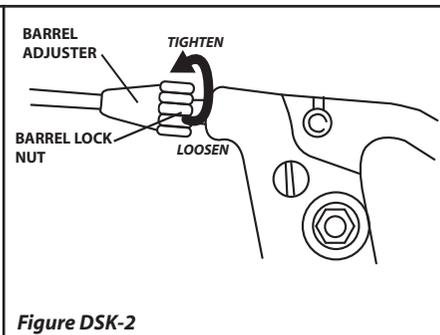

Figure DSK-2
Adjusting Caliper or Side Pull Brakes: For minor cable adjustments, you can rotate the cable barrel adjuster located on the caliper (figure BRK-1) or on the lever (figure DSK-2) counter clockwise or clockwise.
- For minor cable adjustments, rotate the barrel adjuster located at the brake lever (figure DSK-2) counter clockwise or clockwise.